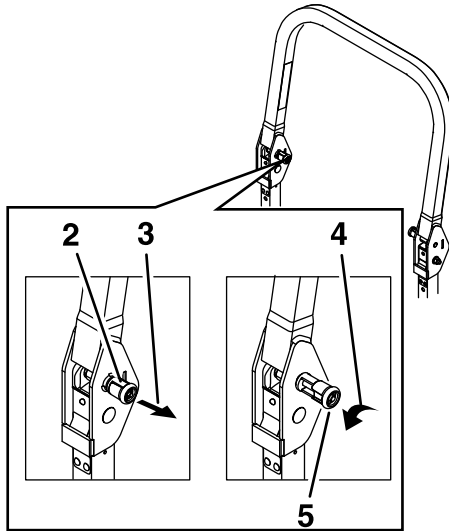

Figure 8
1. Ensure that the knob is completely latched with the tabs interlocking as shown in Figure 8 to lock the roll bar in the raised position.
3. Pull both knobs out and rotate them 90° so they are not engaged (Figure 8).
4. To raise the roll bar, raise the roll bar to the operate position, rotate the knobs so that they move partially into the grooves (Figure 8).
5. Raise the roll bar to the full upright position while pushing on the upper roll bar and the pins snap into position when the holes align with the pins (Figure 8).